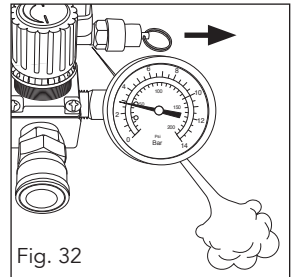

Fig. 32
2. Hold the ring on the safety valve (11) and pull it outwards. Air should discharge from the valve (Fig. 32).